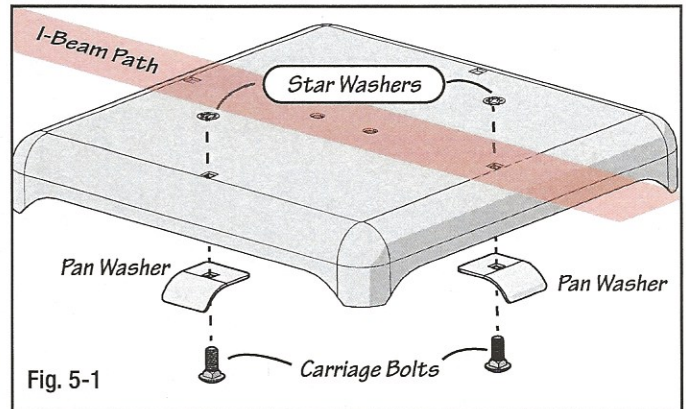

Fig. 5-1
- Stand the ground pad on its side. Slide a carriage bolts through the pan washers passing through the ground pad as shown right in Fig 5-1.
- Attach two star washers over the carriage bolts on top of the ground pan, securing both bolts in place as in Fig 5-1.